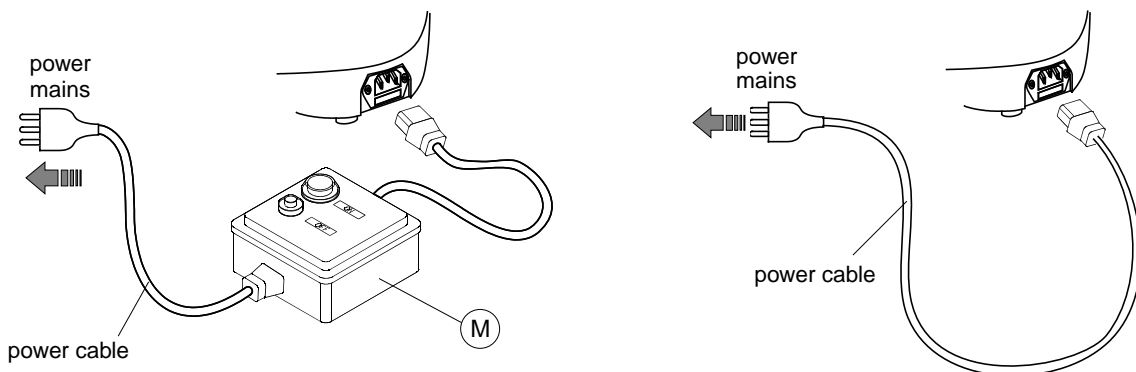

Fig. 8
first connect the safety device (M) to the key-cutting machine and the power cable then connect the free end of the power cable to the power mains (fig.8).
connect the key-cutting machine and the power cable then connect the free end of the power cable to the power mains (fig.8).